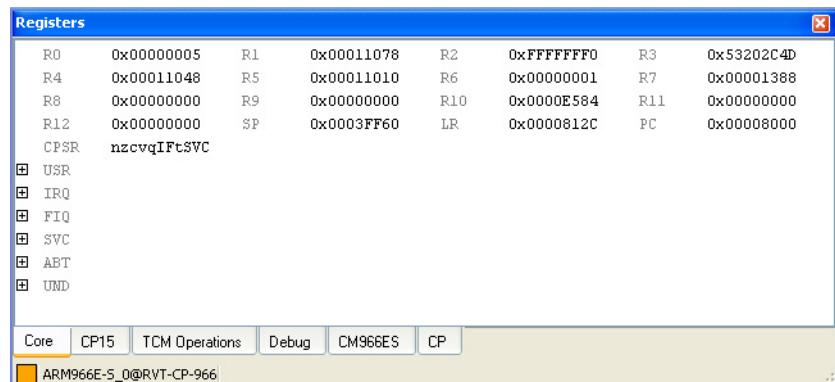

Figure 13-17 Registers view
3. Select **Registers** from the **View** menu to display the Registers view as a floating view. The **Core** tab is displayed by default. Figure 13-17 shows an example:
- Select **Registers** from the **View** menu to display the Registers view as a floating view. The **Core** tab is displayed by default. Figure 13-17 on page 13-25 shows an example.
3. Select **Registers** from the **View** menu to display the Registers view as a floating view. The **Core** tab is displayed by default. Figure 13-17 on page 13-25 shows an example.